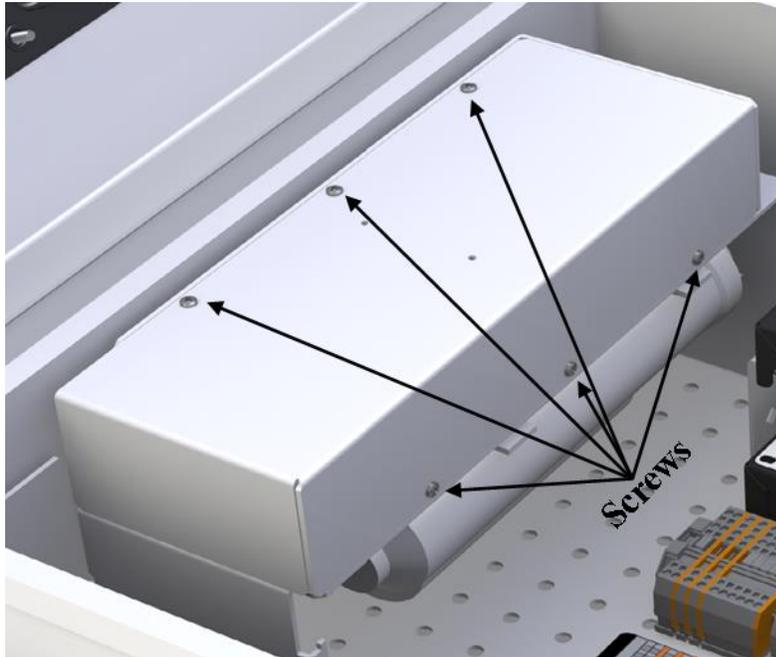

FIGURE J-2. Location of six screws of pump enclosure cover
2. Remove the six screws that hold the cover on the AP200 pump module enclosure (see FIGURE J-2). If the screws become lost or damaged, they can be replaced with pn488.
5. Hold the pump assembly securely while replacing the cover of the pump enclosure. Make sure the fan does not slide back out of its hole in the foam. Fasten the cover in place with the six screws as indicated in FIGURE J-2.